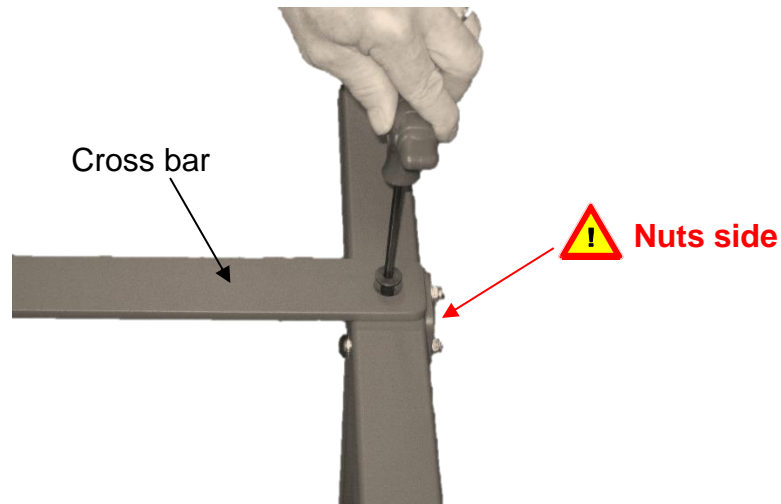

Figure 3: Cross bar assembly
4. Turn both base and upright assemblies upside down. **Assemble each end of the cross bar to the bottom of each base**, by threading the two (2) supplied flat head bolts (see **Figure 3** below). The head of the bolt needs to sit flush with the cross bar, thanks to the countersunk hole in the bar.
Make sure the nuts maintaining the uprights and the bases together face outward the apparatus, according to Figure 3 below.